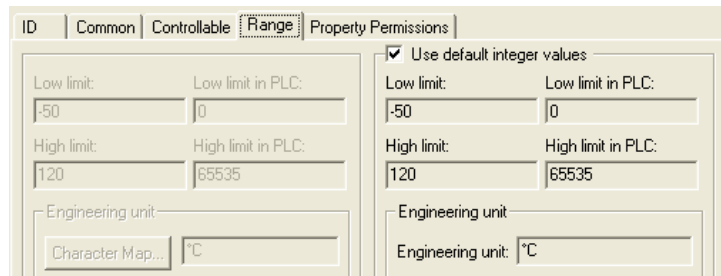

Figure 32. Range Tab for a Signal
- a. When Use default values is selected, the default values from the signal types will be used as shown in Figure 32.
13. Click **Apply**. The settings will revert to default values as shown in Figure 32.